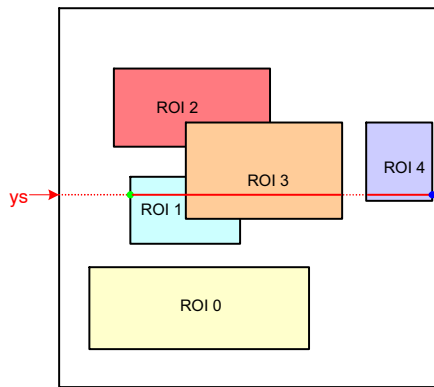

Figure 23. Scanning the Image Array with Five Windows
Figure 23 illustrates a practical example of a configuration with five windows. The current position of the read pointer (ys) is indicated by a red line crossing the image array. For this position of the read pointer, three windows need to be read out. The initial start position for the x-kernel pointer is the x-start configuration of ROI1. Kernels are scanned up to the ROI3 x-end position. From there, the x-pointer jumps to the next window, which is ROI4 in this illustration. When reaching ROI4's x-end position, the read pointer is incremented to the next line and xs is reinitialized to the starting position of ROI1.
- The read pointer is not necessarily incremental by one, but depending on the configuration, it can jump in y-direction. In Figure 23, this is the case when reaching the end of ROI0 where the read pointer jumps to the y-start position of ROI1